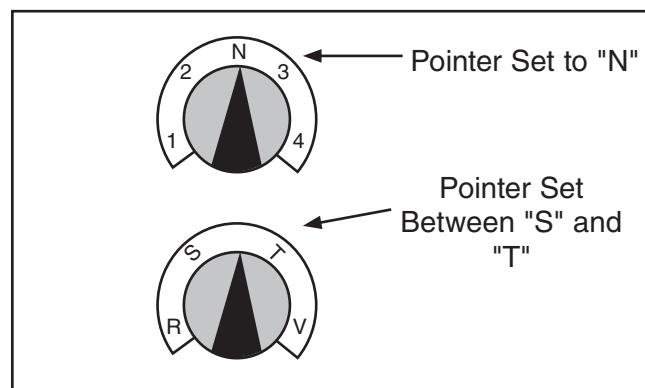

Figure 134. Gearbox dial settings for feed clutch adjustment.
2. Point top right dial at "N", then position bottom right hand gearbox dial pointer between "S" and "T" (see **Figure 134**). This allows feed rod to move freely so adjustments can be made to the clutch.